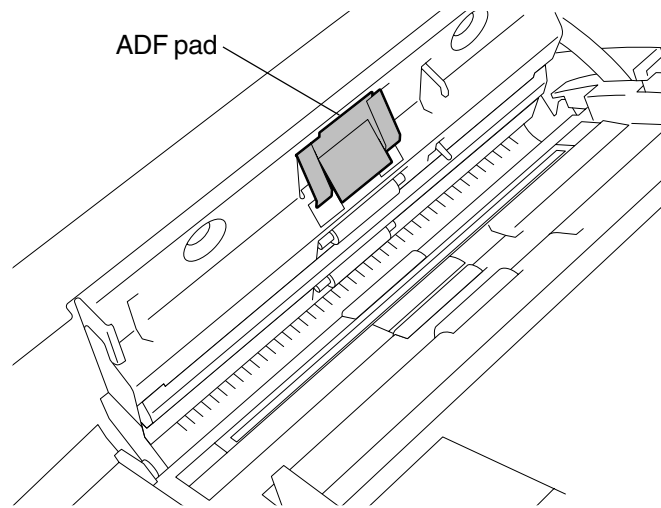

Fig. 10-2-3
3. ADF pad (refer to Fig.10-2-3)